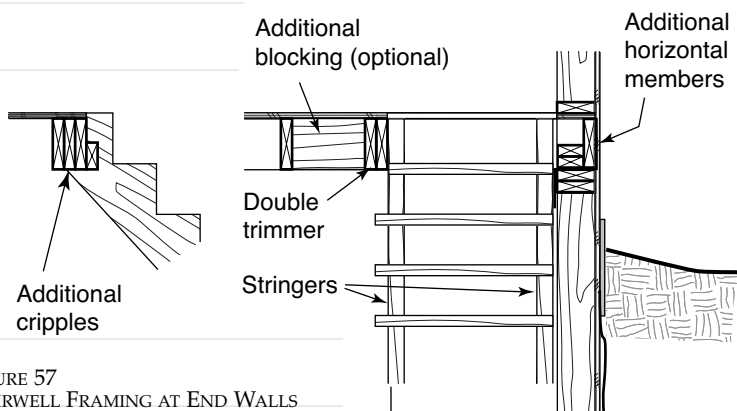

FIGURE 57
- Near an end wall, double the trimmer joists, add horizontal members in the joist space above the studs to create a beam, and reinforce the header with cripples (see Figure 57).